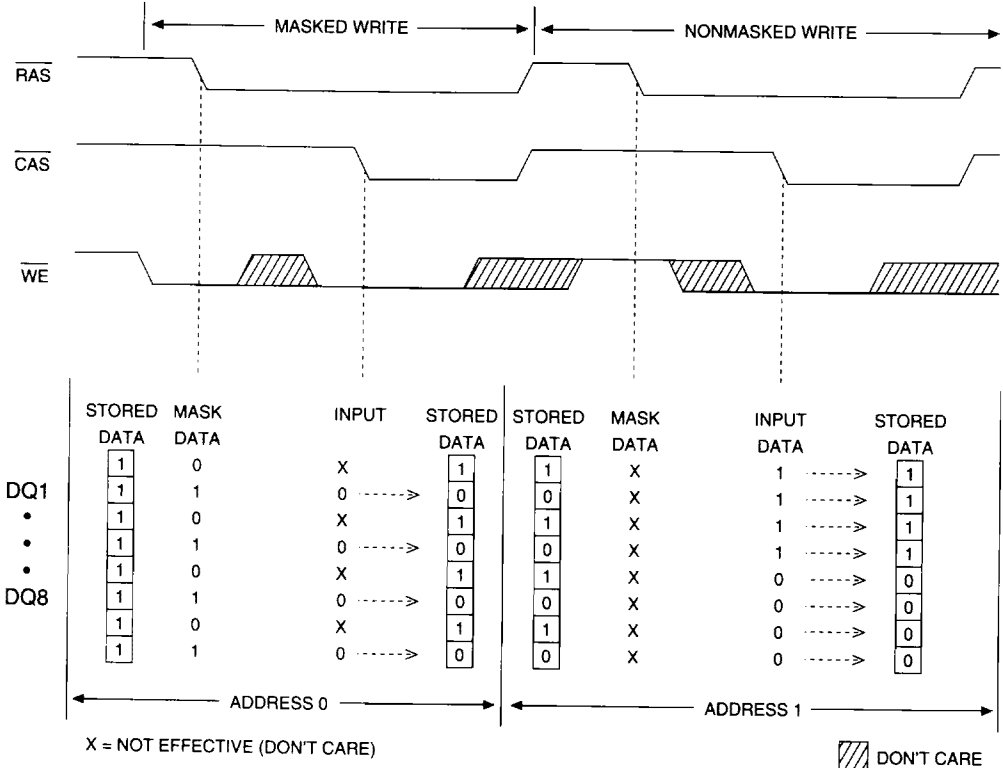

Figure 1
Figure 1 illustrates the MT4C2M8B2 S MASKED WRITE operation (Note: \overline{RAS} or \overline{CAS} time refers to the time during which \overline{RAS} or \overline{CAS} transition from HIGH to LOW).
1. Data-in will be dependent on the mask provided (MT4C2M8B2 S only). Refer to Figure 1.